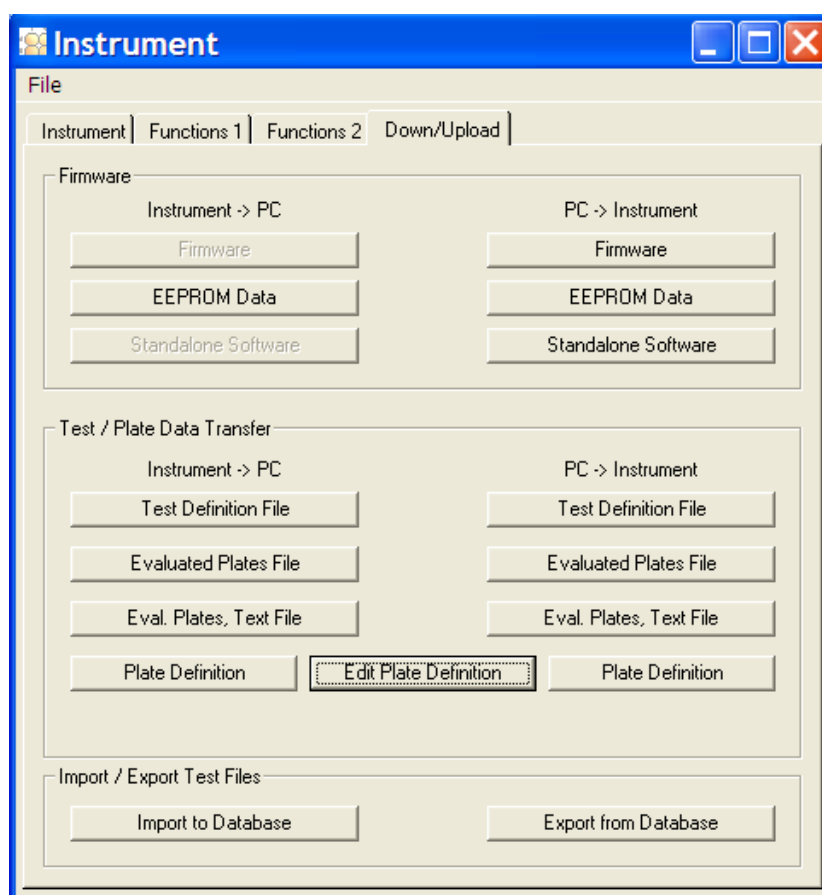

Figure 5-9: Down/Upload – Import/Export Test Files
2. Choose **Down/Upload** (Figure 5-9).
2. Select the **Down/Upload** tab to display it (Figure 5-9).